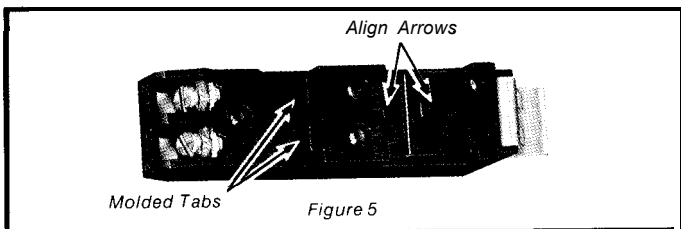

Figure 5
1. Align narrow molded end on auxiliary contact block. See Figure 5 on Page 5.
2. Locate molded tabs on side with arrows. See Figure 5 on Page 5.